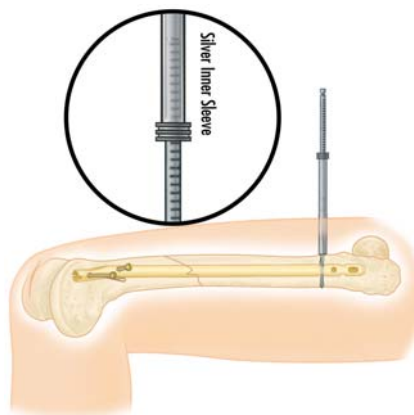
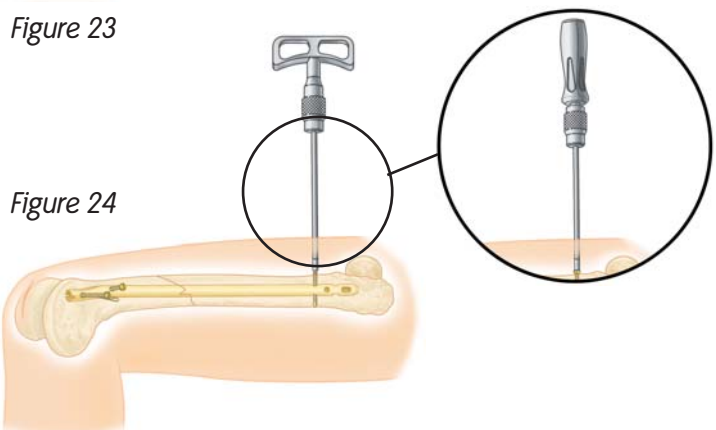

Figure 23
Figure 24
- A. **Predrilling Technique** — After perfect circles are confirmed, a stab incision is made over the holes and the Long Pilot Drill (7163-1110) is inserted through both cortices. The Mini-Connector (7163-1186) can be used to conveniently connect the drill to power. Remove the Mini-Connector and push the Silver Inner Drill Sleeve (7163-1156) to bone over the drill. The appropriate length measurement is taken from the drill calibrations in relation to the top of the Silver Inner Drill Sleeve (Figure 23). The appropriate length 5.0 mm screw (GOLD) is selected and attached to the Screwdriver. Remove the Long Pilot Drill and Inner Drill Sleeve. Attach Screwdriver to power or use manual T-Handle (7163-1172) or Straight Screwdriver Handle (7163-1163) and place screws in bone. It is recommended that final tightening of the 5.0 mm screw should always be under manual control using the T-Handle (7163-1172) or Straight Screwdriver Handle (7163-1163) (Figure 24).